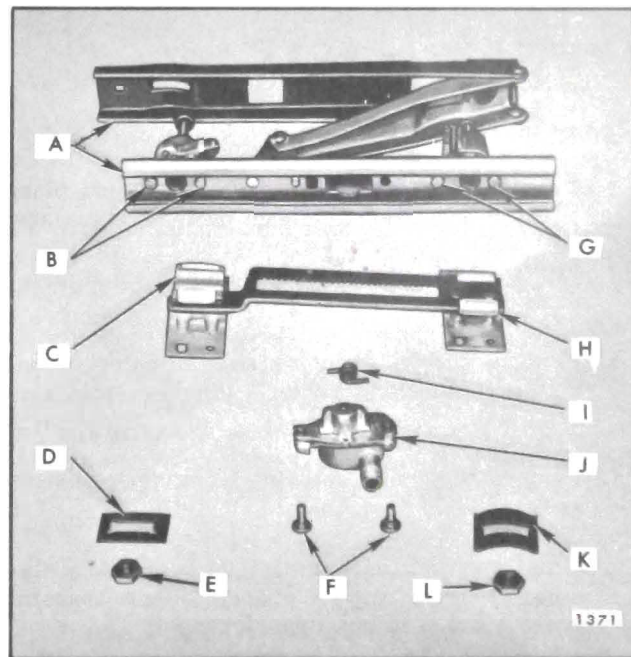

Fig. 15-14—Six-Way Seat Adjuster Components - "B & C" Styles
7. Lay adjuster on its side and remove front vertical gearnut attaching screws (Fig. 15-14); then remove gearnut from adjuster.
7. Lay adjuster on its side and remove rear vertical gearnut attaching screws; then remove gearnut from adjuster (Fig. 15-14).
3. If lower channel is being replaced with a new part, transfer plastic slides to new part (Fig. 15-14).
6. Transfer front and rear gearnuts to new upper channel (Fig. 15-14).